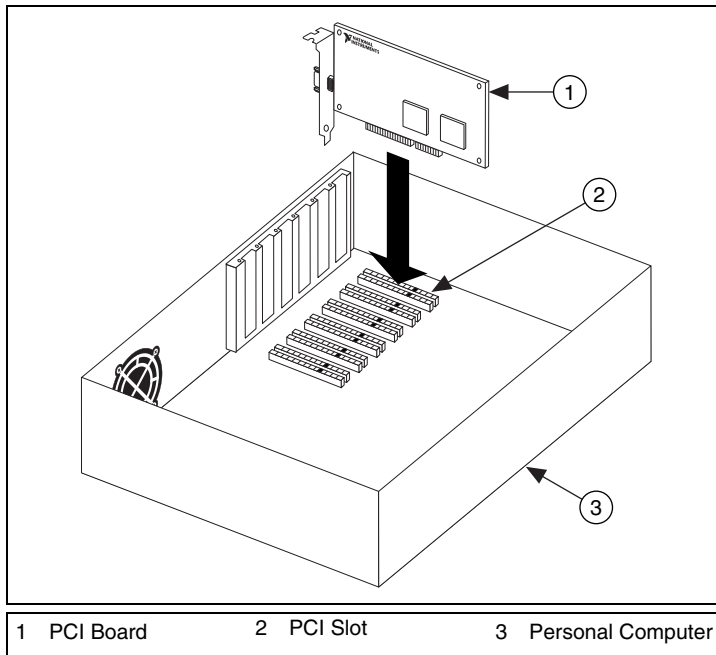

Figure 16. Installing the PCI-GPIB
5. Insert the GPIB board into the slot with the GPIB connector sticking out of the opening on the back panel, as shown in Figure 16. It might be a tight fit, but do not force the board into place.